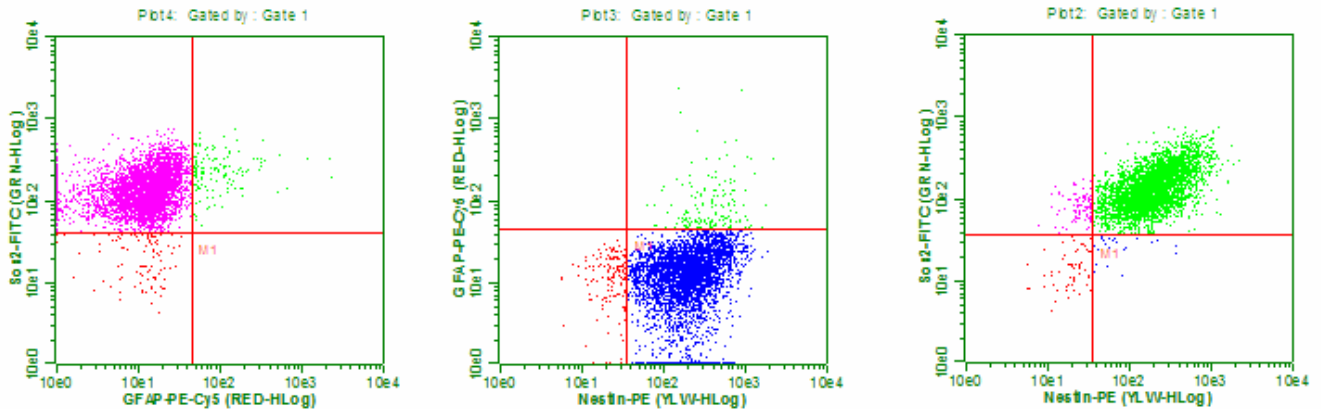

Figure 1. Representative data of undifferentiated Adult Hippocampal Neural stem cells stained with Sox2-FITC, Nestin-PE, and GFAP-PE-Cy5.
25. Once cells are acquiring, click on compensation window 1 and adjust compensation, so that you get the desired result, i.e. something very similar to the data presented in Figure 1 of this manual.